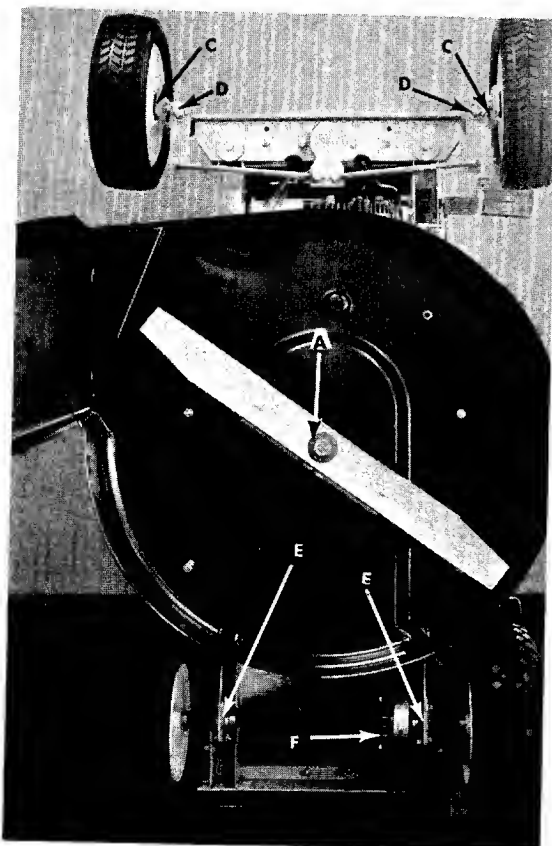

FIGURE 17. LUBRICATION
- B. Steering Gears.** Lubricate with multi-purpose automotive type grease once a season. See figure 17.
- C. Front Wheel Bearings.** Remove the front axle bolts and coat the axle with a multi-purpose automotive type grease and reassemble once a season. See figure 17.
- D. King Pins.** Lubricate the king pins after every 25 hours of operation with SAE 30 oil. Wipe up excessive oil with a rag. See figure 17.
- E. Rear Axle Bearings.** Lubricate the rear axle bearings after every 25 hours of operation with SAE 30 oil. Wipe up excessive oil with a rag. See figure 17.
- F. Chain.** Remove the chain once each season, clean in kerosene, dry and lubricate with a rag saturated in SAE 30 oil. See figure 17.
- Step 5. Lubricate all lubrication points indicated in figure 17; then wipe the entire machine with an oiled rag in order to protect the surfaces.